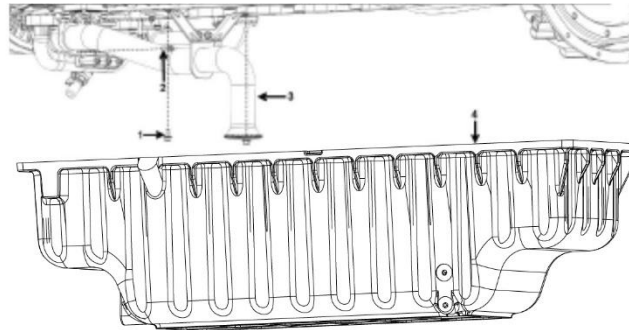

Figure 130.
1. Install the oil strainer by tightening both bolts (Figure 130, Items 1 & 2).